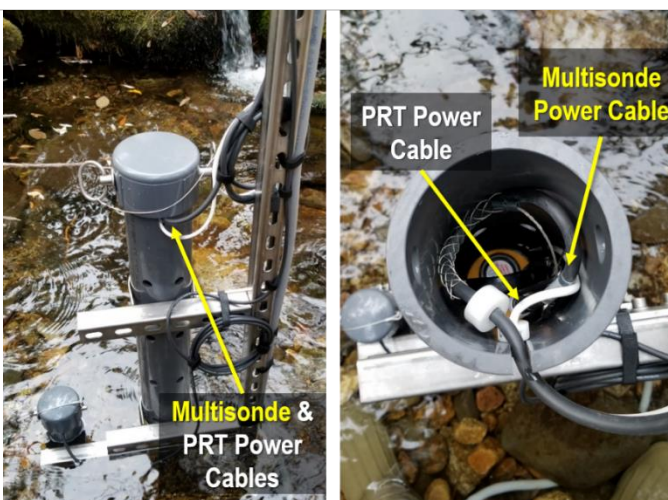

Figure 140. Disconnect Sensor Power Cable
**STEP 4** | Remove the Multisonde and disconnect the sensor power cable that connects to the Grape (Figure 140). The Multisonde uses a 12V Merlot Grape. These either mount to the stream anchor above the sensor or nearby on a device post onshore.